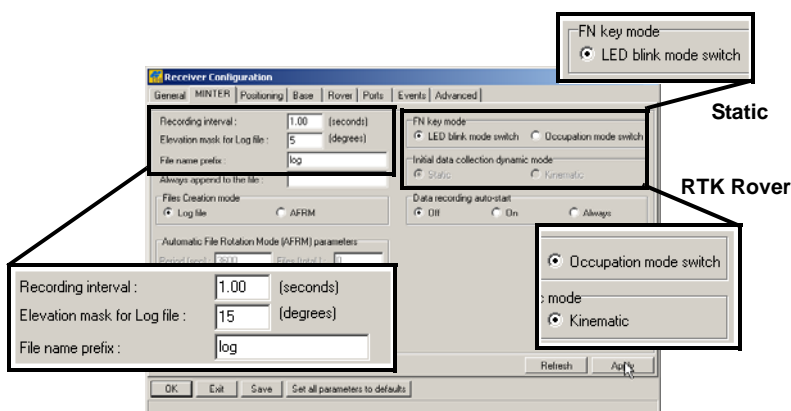

Figure 3-10. Configure Receiver's MINTER for Data Recording
7. Click the *MINTER* tab and configure the following settings (Table 3-5), then click **Apply** (Figure 3-10).